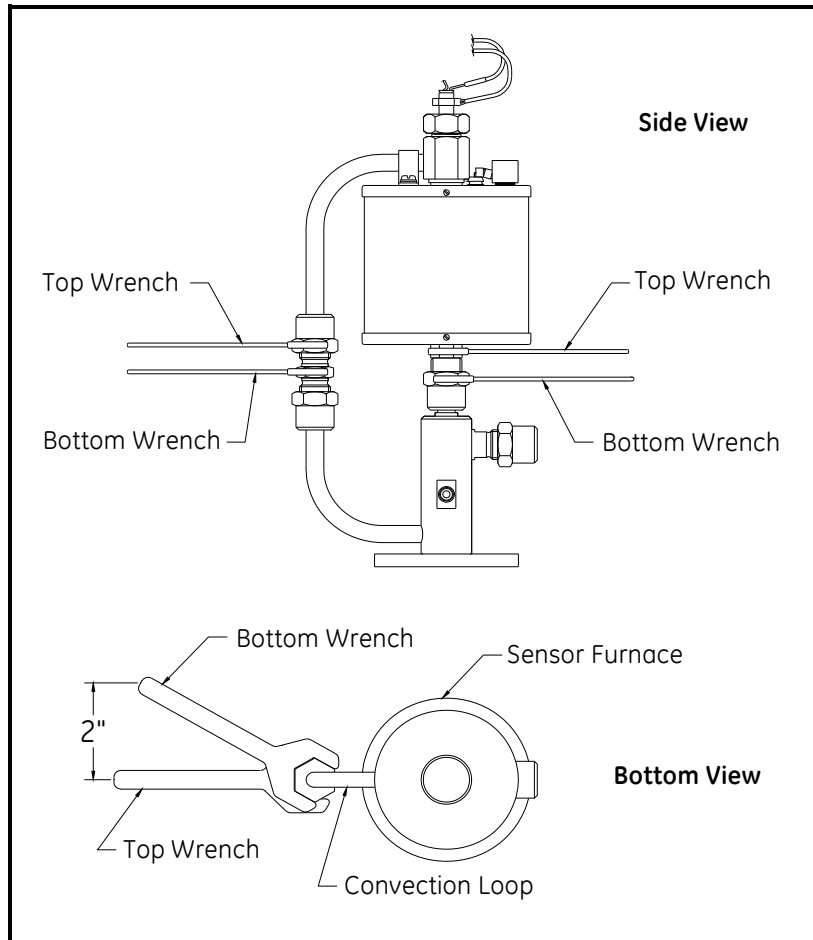

Figure 38: Wrench Positions
**Note:** The wrenches should be parallel to each other, but the bottom wrench should be positioned with its end rotated about 2 in. in a counterclockwise direction from the upper wrench. Refer to Figure 38 for a view of the wrenches from both the side and the bottom of the manifold assembly.
7. Repeat steps 5 and 6 to loosen the upper nut in the center of the convection loop (see Figure 38).
5. Finger tighten the nut on top of the manifold to the fitting beneath the sensor furnace. Also, finger tighten the nut on the upper section of the convection loop to the fitting on the lower section of the convection loop (see Figure 38 on page 87).
6. Place a wrench on the flat surface of the piping at the connection just below the sensor furnace (see Figure 38 on page 87).